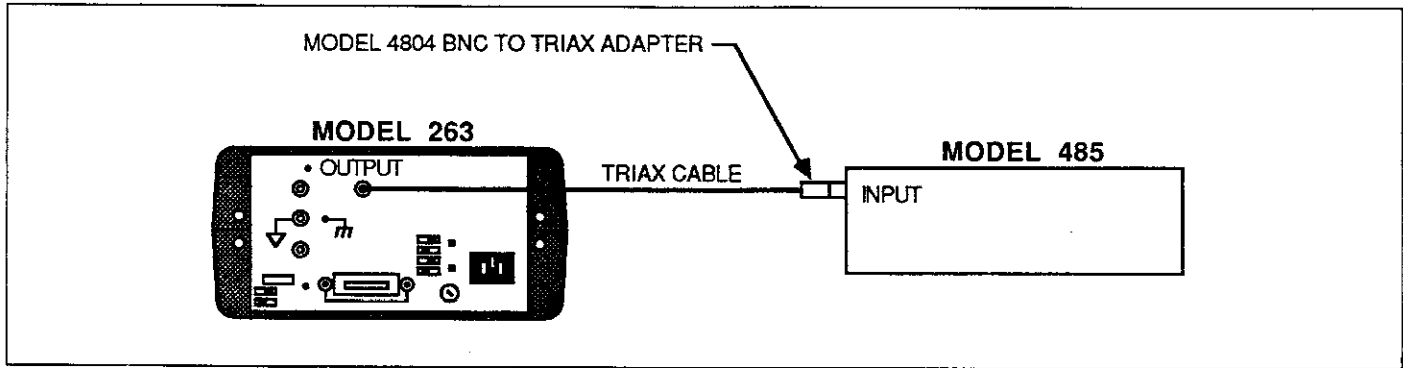

Figure 1. Model 485 Verification Connections
3. Connect the Model 263 to the Model 485 as shown in Figure 1. Make sure the calibrator is in standby.